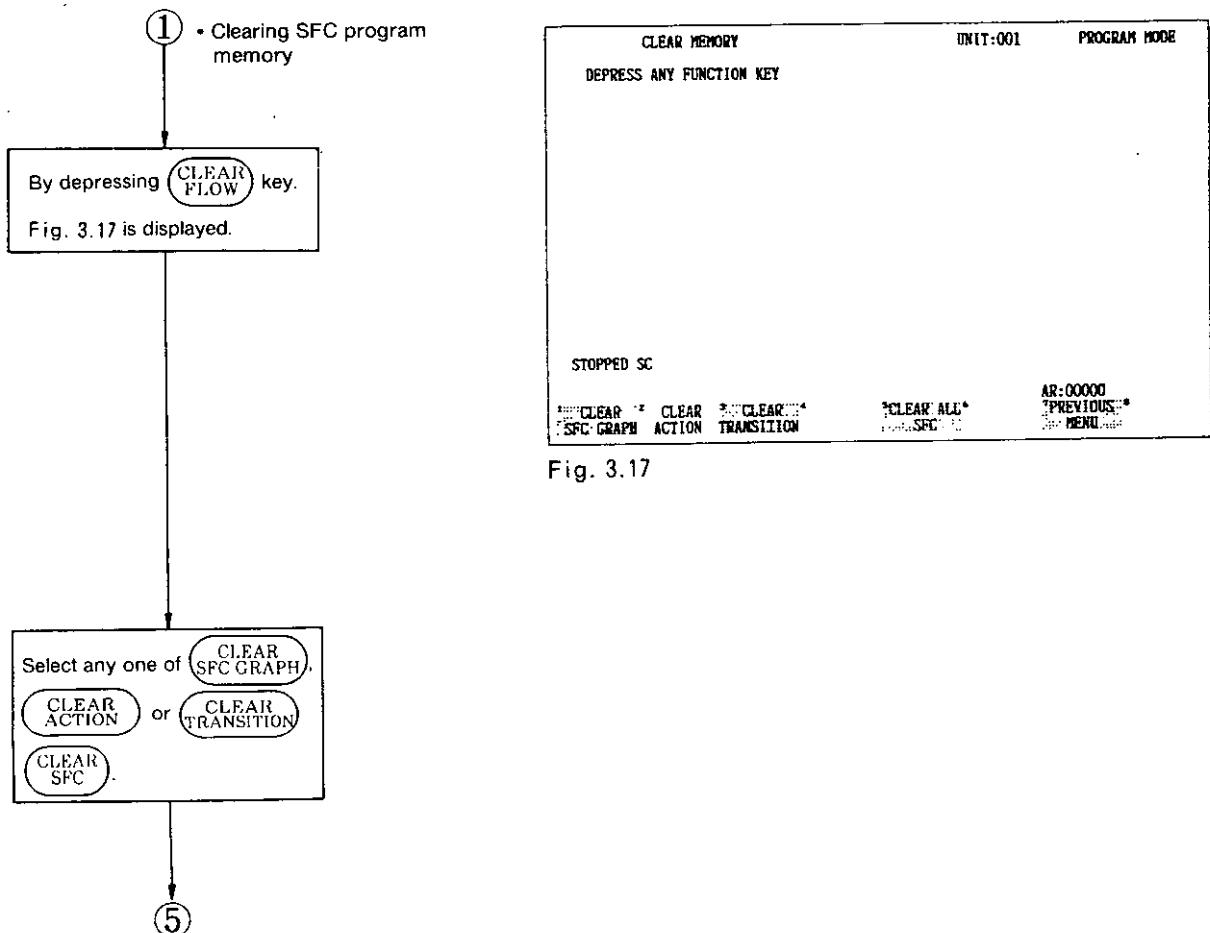

Fig. 3.17
1. To clear all of the SFC GRAPH, ACTION and TRANSITION memory areas, depress **CLEAR ALL SFC** on the display shown in Fig. 3.17.
2. Depressing **PREVIOUS MENU** on the display shown in Fig. 3.17 returns the display to the state shown in Fig. 3.15.